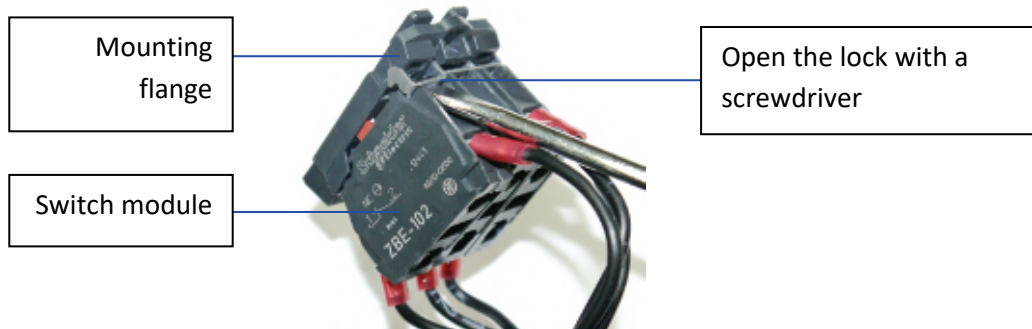

Fig. 44: Dismantling the auxiliary switch block
2. Detach the switch modules from the mounting flange (and from each other respectively) by pushing the locks outwards with a small screwdriver (see Fig. 44).